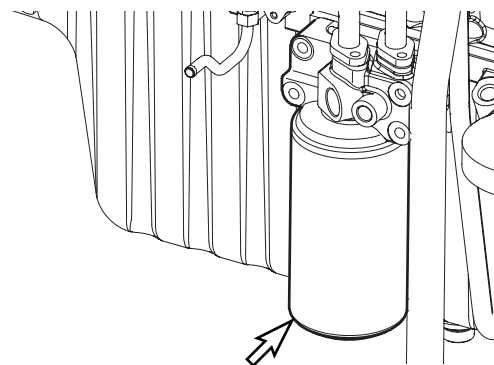

Figure 55
2. Replace engine oil filter by using filter wrench. The engine oil filter is a spin-on type. See Figure 55. Remove and discard filter.